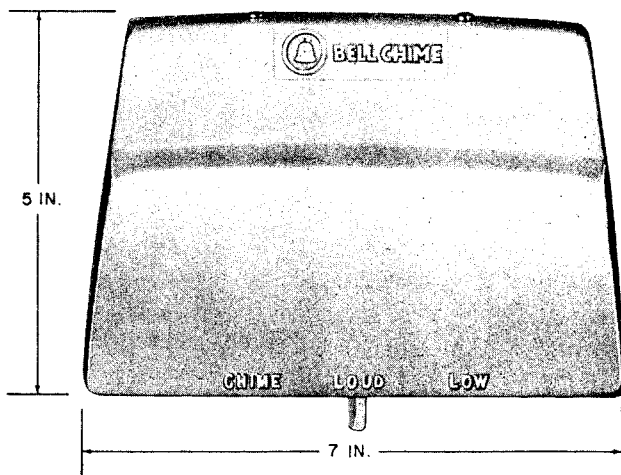

Fig. 1 — F1A Ringer With 125A Cover in Place
1.01 This section contains identification, installation, maintenance, and connection information for the BELL CHIME ringer (Fig. 1 and 2).